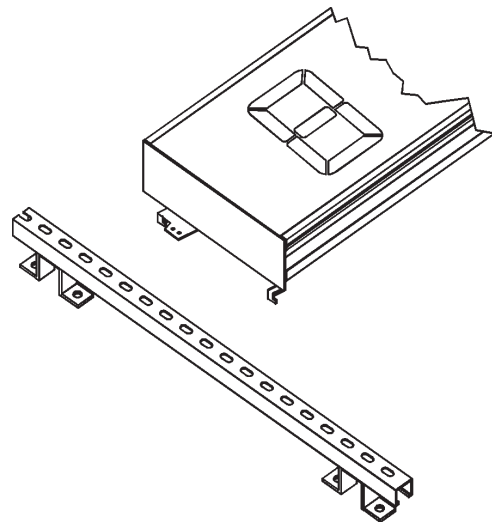

Figure 3-L: Mount scoreboard display line on unistruts
- 6) If you are installing a two-column (side-by-side) scoreboard, complete steps 1- 5 for the left column. Repeat the procedure for the right column, but do not loosen the center unistrut as that will change the left column as well. See Figure 3-N for an example of side-by-side mounting.